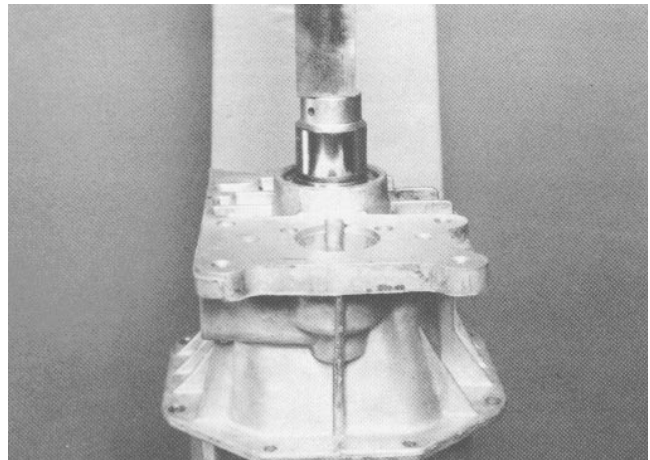

Figure 36
3. Put the front housing on a press. Using a press plate, push the outer pinion bearing cup into the housing until it bottoms in the housing (Fig. 36).